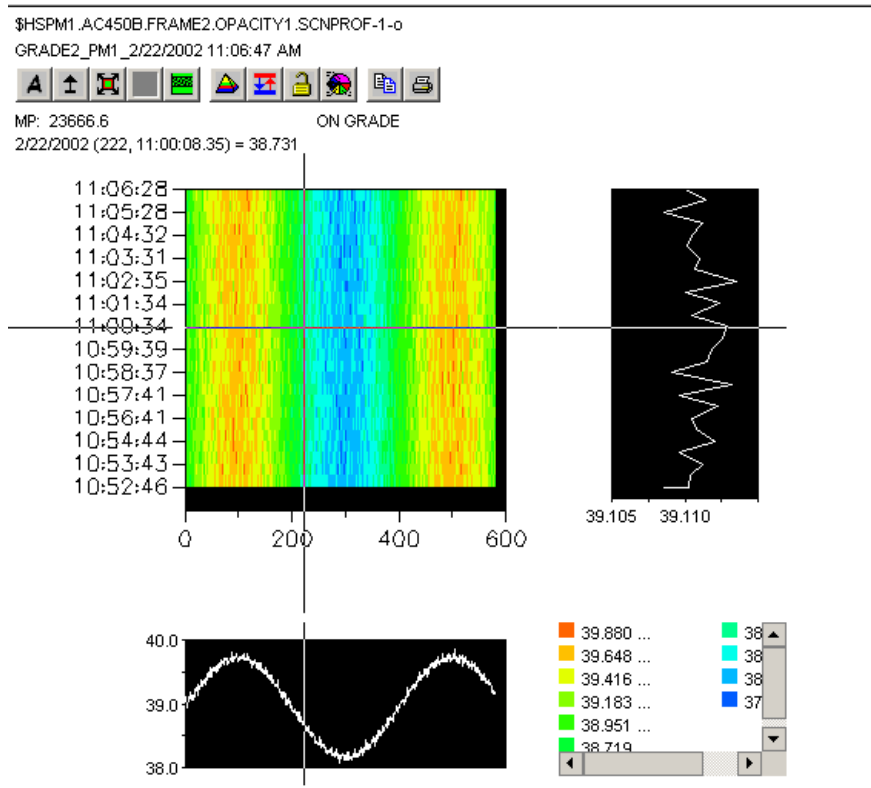

Figure 59. Example, Single View
The Single view combines a Contour Map with one average Machine Direction (MD) view, and one average Cross Direction (CD) view, Figure 59. The same measurement is applied to all views. Operation of these views is basically the same as for the ContourMDCD View. The operation of the Legend is also the same.